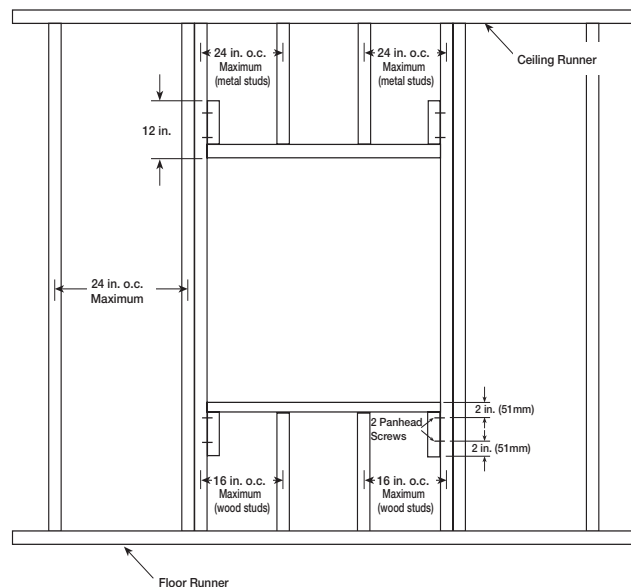

Figure 4
- Frame wall openings as shown (see **Figure 4**)
- Gypsum wall board must be fastened 12 in. (305mm) on center to all stud and runner flanges surrounding opening (see **Figure 4**).